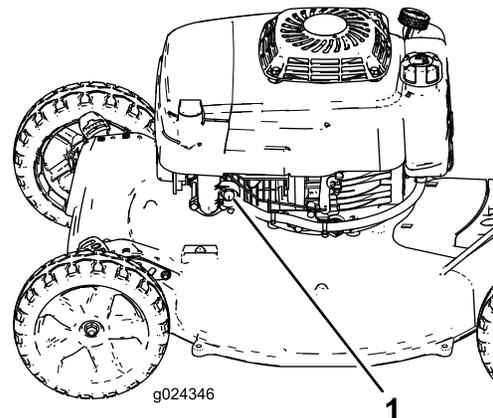

Figure 12
2. Firmly push in the primer (Figure 12), holding the primer bulb in for 1 second.